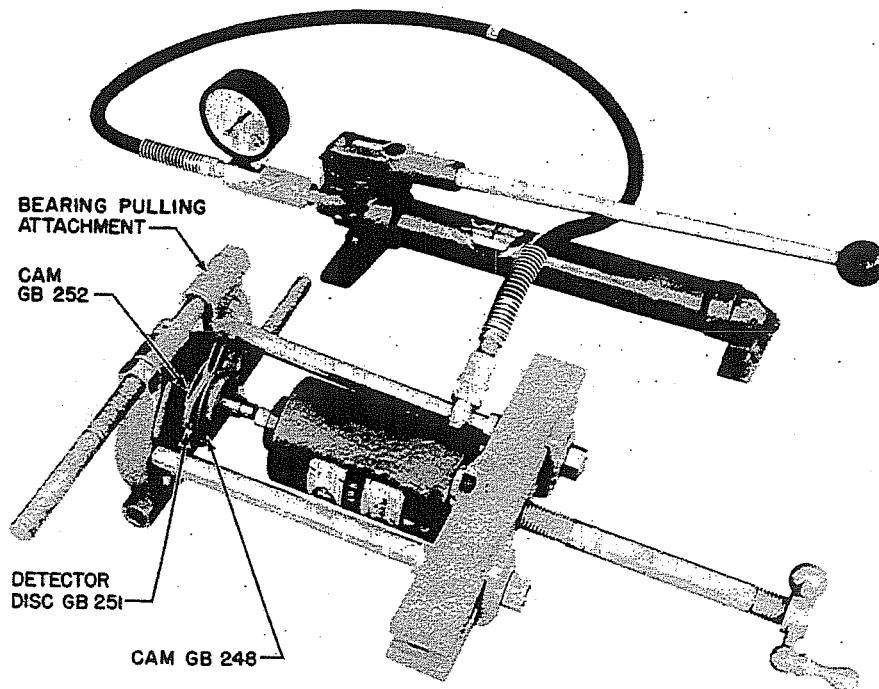

Figure 42. Detector, Removal of Cam GB248, Disc GB251, and Cam GB252
- P. Secure the bearing pulling attachment behind the shoulder of Out-of-Range Selector Cam GB252 and apply pressure to Shaft GB256 (figure 42). Selector Cam GB248, Detector Disc GB251, and the out-of-range selector cam will be removed together.